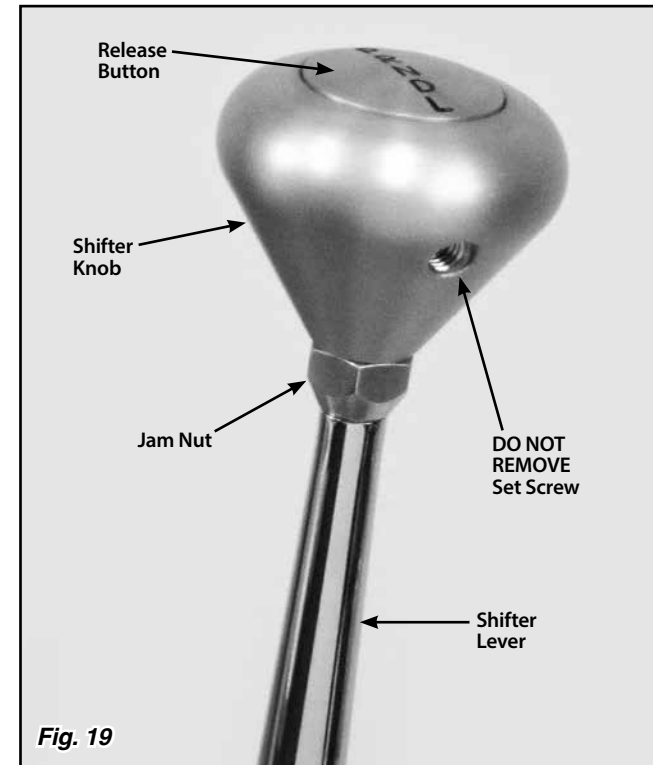

Fig. 19
- Step 2:** Loosen the jam nut below the shifter knob (turn the nut CLOCKWISE to loosen it). **DO NOT** loosen or remove the set screw that is in the knob. **Fig. 19**